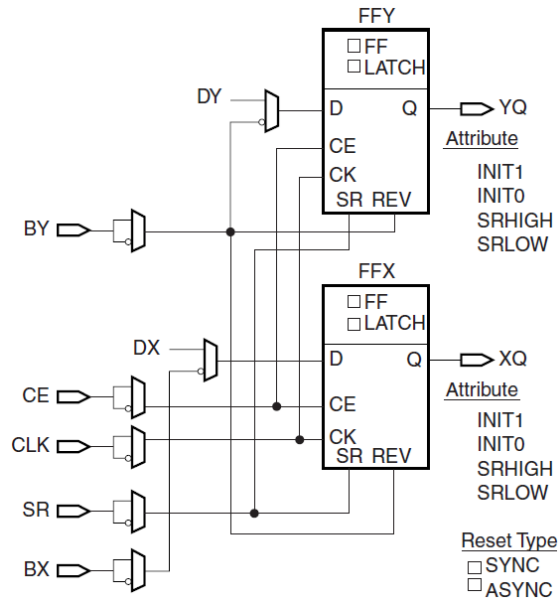

Figure 12 Register/Latch Configuration in a Slice
The storage elements in a BQR2V6000 slice can be configured as either edge-triggered D-type flip-flops or level-sensitive latches. The D input can be directly driven by the X or Y output via the DX or DY input, or by the slice inputs bypassing the function generators via the BX or BY input. The clock enable signal (CE) is active High by default. If left unconnected, the clock enable for that storage element defaults to the active state. In addition to clock (CK) and clock enable (CE) signals, each slice has set and reset signals (SR and BY slice inputs). SR forces the storage element into the state specified by the attribute SRHIGH or SRLOW. SRHIGH forces a logic “1” when SR is asserted. SRLOW forces a logic “0”. When SR is used, a second input (BY) forces the storage element into the opposite state. The reset condition is predominant over the set condition (Figure 12). The initial state after configuration or global initial state is defined by a separate INIT0 and INIT1 attribute. By default, setting the SRLOW attribute sets INIT0, and setting the SRHIGH attribute sets INIT1.